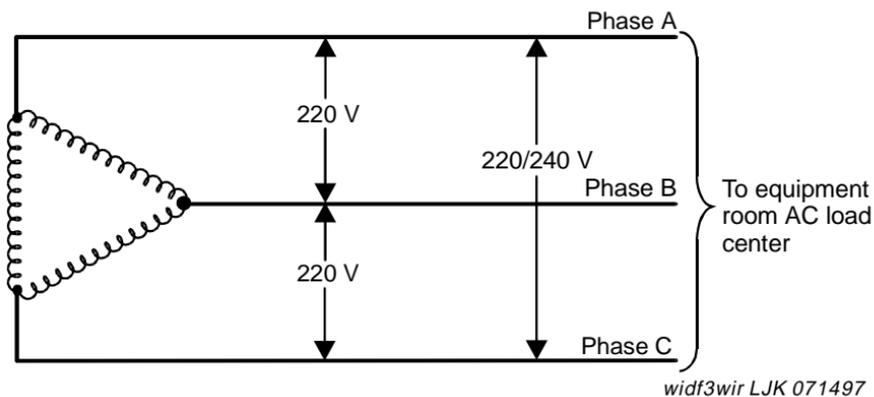

Figure 21. International Delta, 220 or 240 VAC, 50-Hz Source
- International Delta, 3-wire, 220 or 240 VAC. See Figure 21.